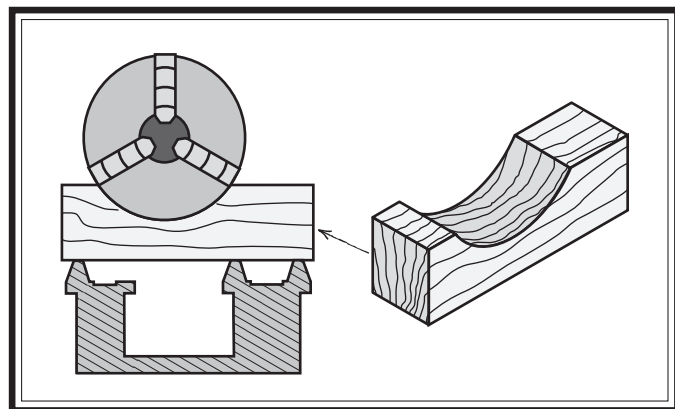

Figure 39 Wooden chuck support cradle.
2. Lay a chuck cradle (see **Figure 39**) or plywood under the chuck or faceplate and over the bedway to protect the precision ground surfaces from damage and reduce injury if fingers get pinched.